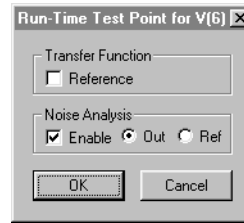

Figure 6.25. Use this dialog box to set up Run-Time Test Points for a Noise Analysis.
- 1 Select the output node by clicking the output node of the circuit with the **Probe Tool** to place a Run-Time Test Point. Double-click on it to display the dialog box shown in Figure 6.25. In the dialog box that appears, check the Noise Analysis **Enable** checkbox, and make sure **Out** is selected.
The waveform in Figure 6.27 was generated by simulating the Analog.ckt circuit using the values shown in Figures 6.25 and 6.26. See *Using the Analysis Window* earlier in this chapter for more information about manipulating the waveforms.